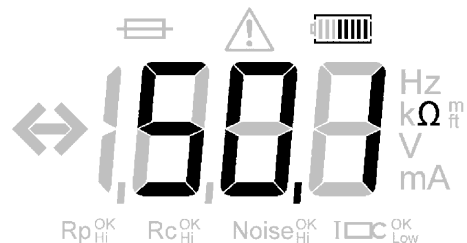

Figure 4: Two point resistance reading
4. A resistance reading will be displayed on the LCD display as shown in Figure 4.